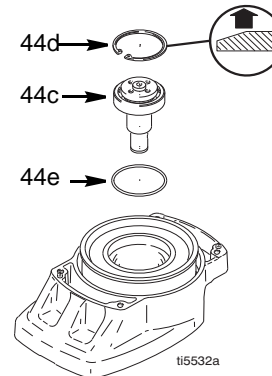

FIG. 6
7. FIG. 6. Ta bort låsringen (44d).
6. FIG. 6. Montera o-ring (44e).